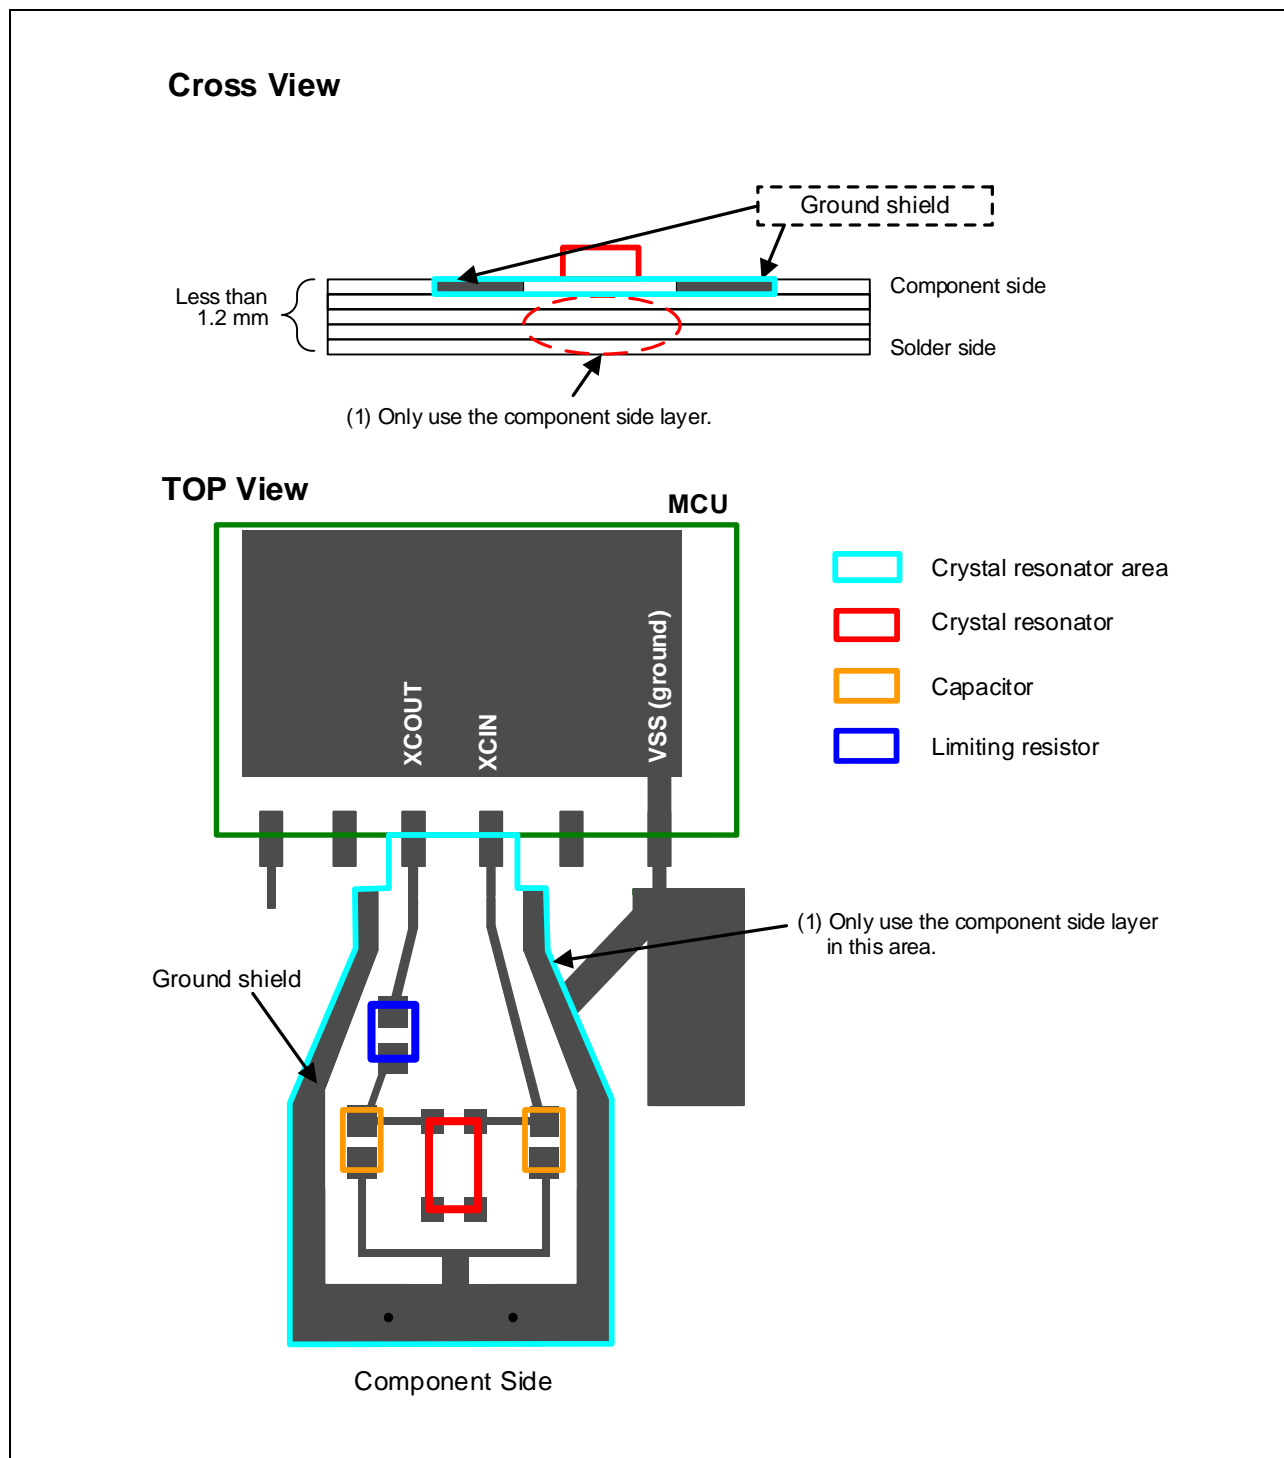

Figure 3.10 Trace Example When a Multilayered Board is Less Than 1.2 mm Thick
(1) describes points when making a multilayered board that is less than 1.2 mm thick, and Figure 3.10 shows a trace example.